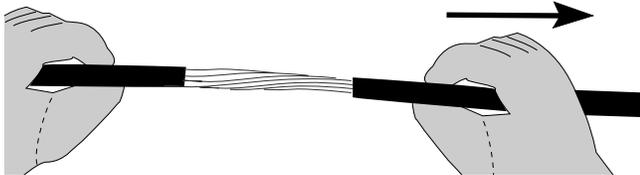

Figure 15
6.2 Slide the 15 cm (6 in.) section of outer sheath off the end of the cable – use care during this step to avoid damaging the buffer tubes (Figure 15).